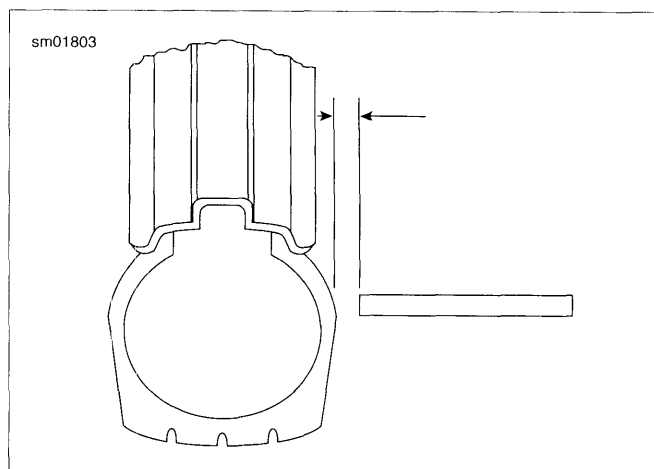

**Figure 2-130. Tubeless Tire Valve Stem**
1. See Figure 2-130. On tubeless wheels, damaged or leaking valve stems must be replaced. Install rubber grommet (3) on valve stem.
3. Install metal washer (2).